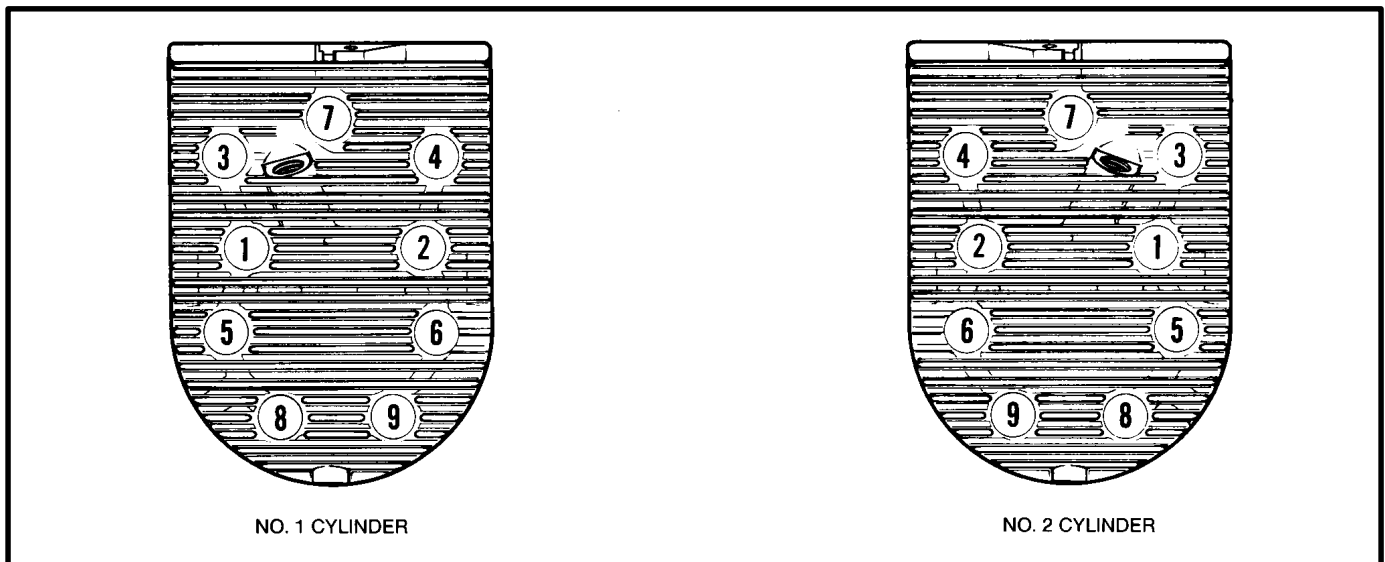

FIGURE 10-30. CYLINDER HEAD TORQUE SEQUENCE
2. Follow the head torque sequence shown in Figure 10-30. Tighten all bolts to 5 lb-ft (7 Nm), then to 10 lb-ft (14 Nm), then to the torque specified in Section 4. *Assembly*. Recheck all head bolts for correct torque.